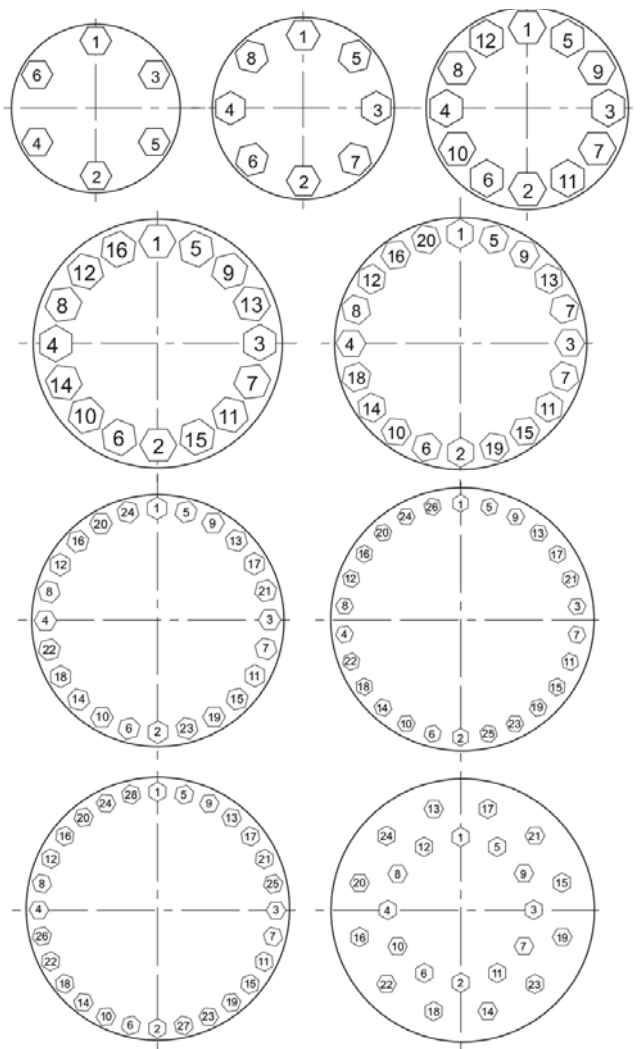

Figure 6 - Tightening Sequence of Nuts (8)
Evenly tighten the nuts (8) by applying the torque indicated in table 2 up to 5 and the tightening sequence in Figure 6.
Beginning by the internal nuts, manually screw all the bolts. Screw the internal nuts in order indicated by the Figure 6 and screw them by successive, uniform and progressive levels. During the tightening, make sure that the bonnet face stays parallel at that of the body. When the torque values given in the following table are reached, the bonnet face must be in contact with that of the body. Screw the external nuts in order indicated by the Figure 6 and screw them by successive, uniform and progressive levels until the torque values given in the tables on next pages.